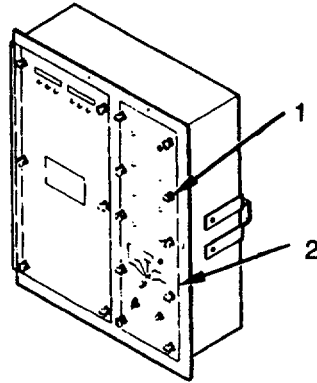

Figure 4-9. Right Electric Plate
- g. Open Right Electric Plate. Loosen ten captive fasteners (1) and open panel (2) (see Figure 4-9).